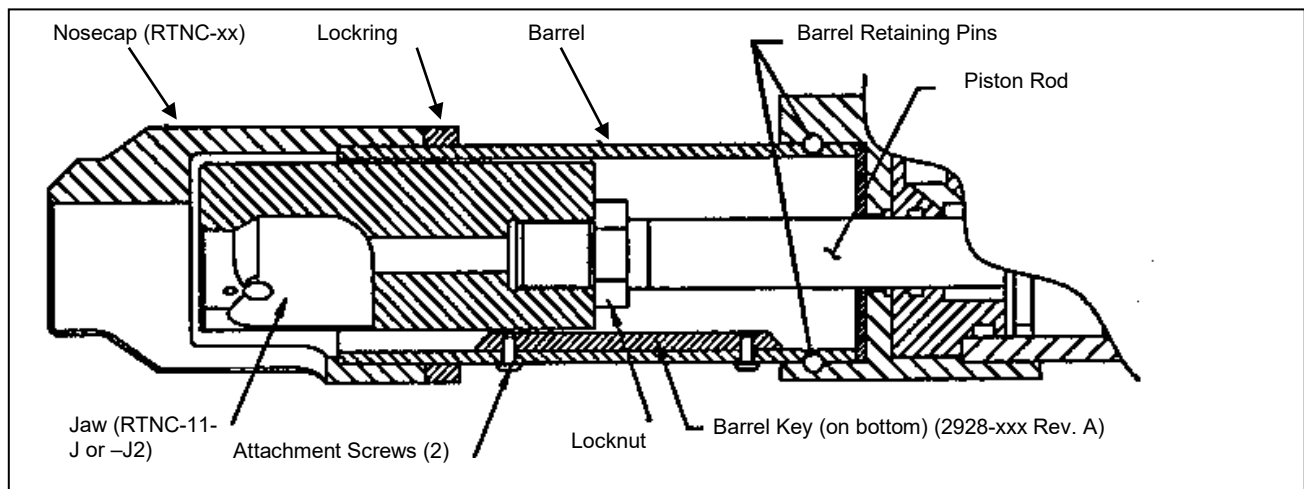

Figure 4.5-2
3. If it is necessary to replace the flat barrel key due to damage, remove the flat barrel key (2928-xxx) from the inside of the barrel by removing the two attaching screws. Retain the screws for attaching the new key (refer to Figure 4.5-2).